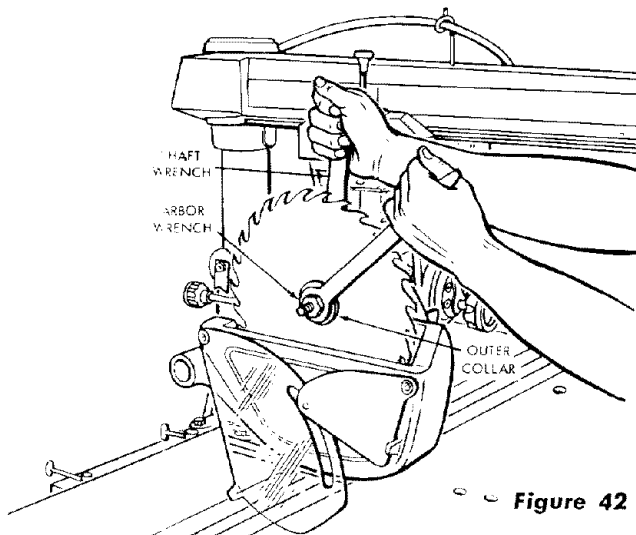

Figure 42
- d. Place the outer collar on the shaft with the flat side facing the saw blade. Start the shaft nut (left-hand threads) on the shaft and tighten the shaft nut securely. (See figure 42.)